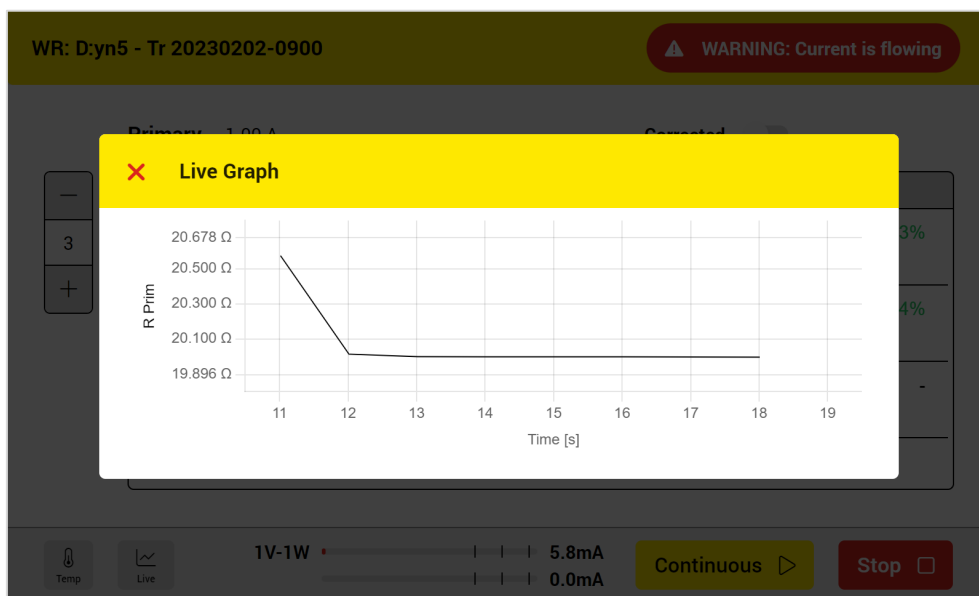

Figure 53: Winding resistance live graph
- 3 Here you can open the live graph to see the live resistance curve over the time (Figure 53). It is visible only during a measurement
Figure 53 is the live graph which shows the live resistance curve over the time.